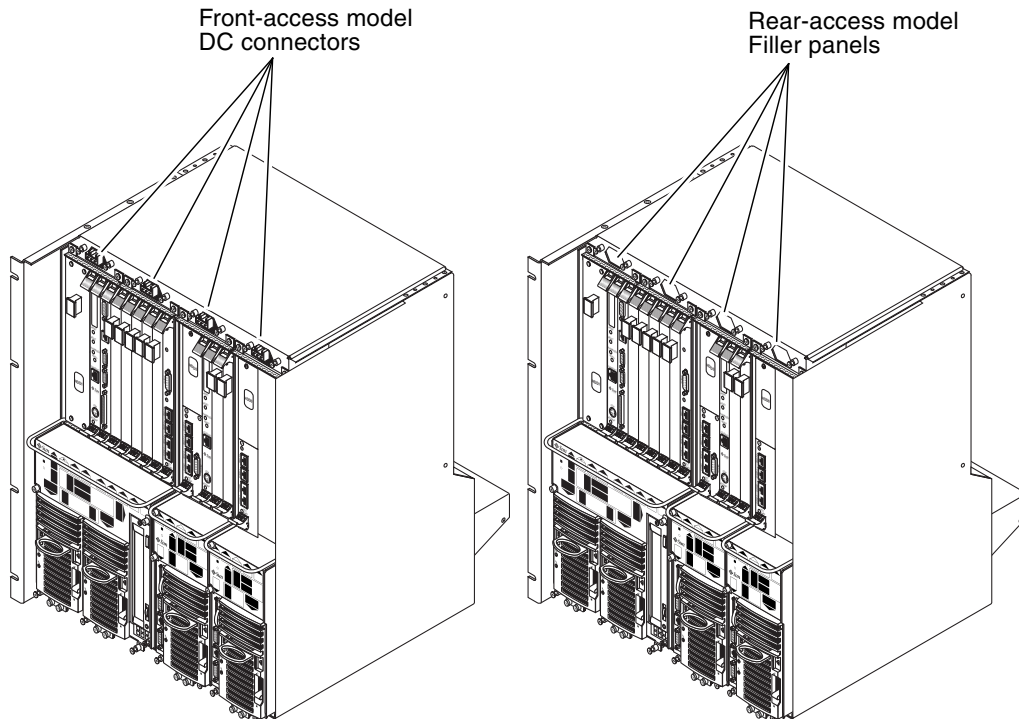

FIGURE 1-2 Front-Access and Rear-Access Models
- If you see the DC connectors at the front of the chassis, then you have a *front-access* model (FIGURE 1-2).
- If you do not see DC connectors at the front of the chassis, and metal filler plates fill the gaps where the DC connectors would normally be, then you have a *rear-access* model (FIGURE 1-2). The DC or AC connectors are at the rear of the chassis for the rear-access model.